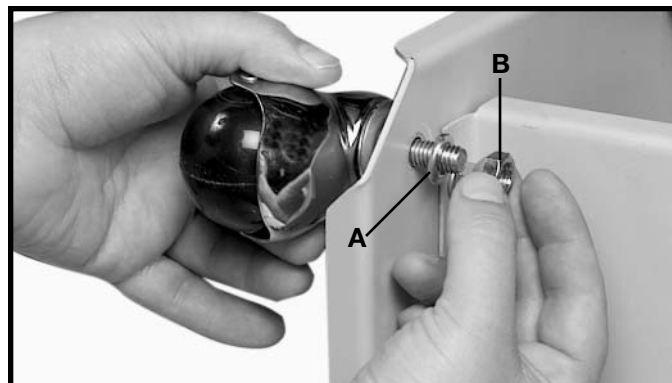

Fig. 4
3. Place a lockwasher (A) Fig. 4 onto each bolt.
4. Thread hex nut (B) Fig. 4 onto each of the four bolt heads and tighten securely.